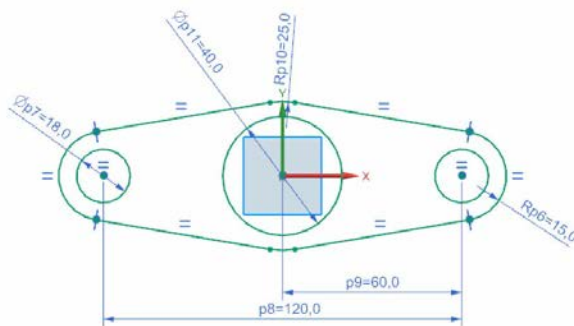

Figure 4-112 Final sketch for Tutorial 2
9. Next, draw three circles using the center points of the arcs, refer to Figure 4-112.
10. Add the Equal Radius constraint to the left and right circles. Now, add the required dimensions to the circles to complete the sketch. The final sketch of the model is shown in Figure 4-112.